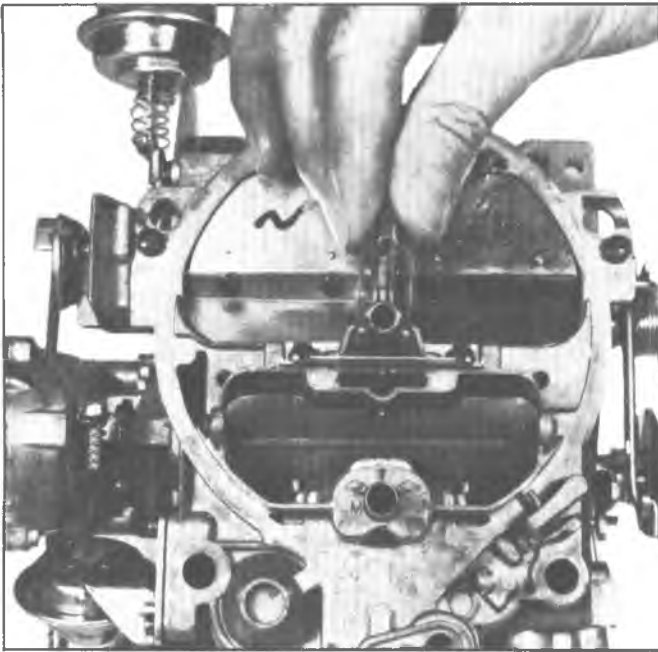

Fig. 3MQ—Removing Secondary Metering Rods
4. Remove secondary metering rods by removing the small screw in the top of the metering rod hanger. Lift upward on metering rod hanger until the secondary metering rods are completely out of the air horn. Metering rods may be disassembled from the hanger by rotating ends out of the holes in the end of the hanger. (Fig. 3MQ).